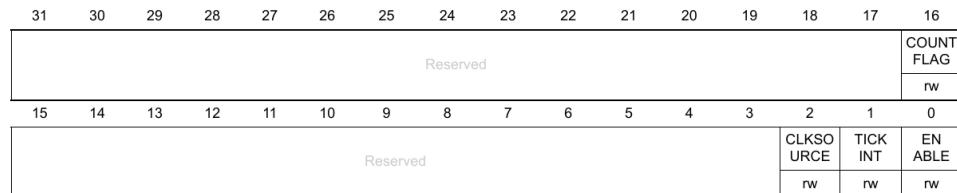

Fig. 14.5: Control Register (CTRL)
**Solution:** Fig. 14.5 shows the SysTick CTRL register. 0x00010000 is used in the above command to mask all the bits except for bit 16, which is the COUNTFLAG. The **while** loop will stop once COUNTFLAG = 0. The while loop is used for the delay.
**Solution:** From Fig. 14.5, ENABLE = 1 enables the counter (for delay) and CLKSOURCE = 1 enables the 8 MHz internal RC clock.